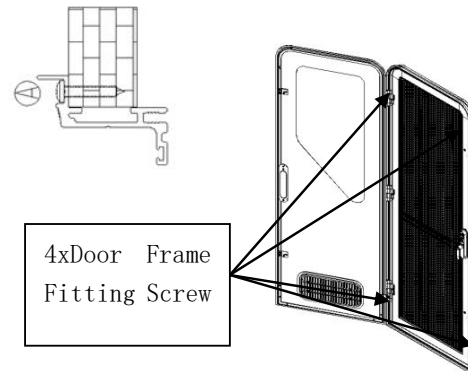

Fig. 4
4) Fix the door frame to the caravan frame with the MINIMUM of one screw in each outside corner area. The door frame should now be fixed into position and unable to move within the caravan frame. As in Fig. 4.